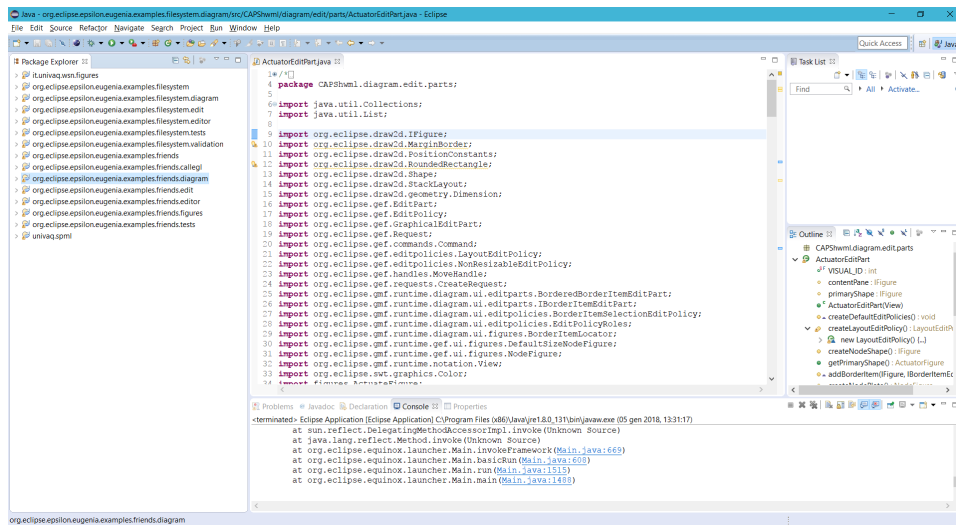

Figure 1.1: Eclipse provided by Mohammad Sharaf
- Then, you will see something like the figure 1.1;